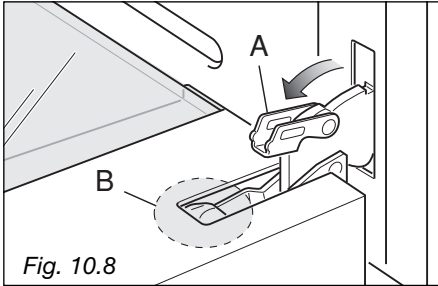
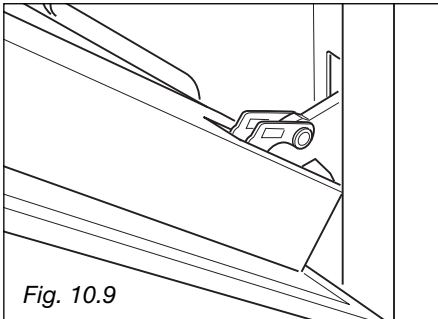

Fig. 10.8
Fig. 10.9
- Unscrew the protective cover (fig. 10.9).
- Fully open the lever **A** on the left and right hinges (fig. 10.8).
- Gently close the door (fig. 10.9) until the left and right hinges are hooked to part **B** of the door (fig. 10.8).
1. Make sure the door is locked open (see fig. 10.9).